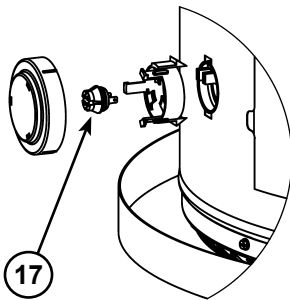

Figure 48
17. Flammable Vapour Sensor (under cover) (see Figure 48)